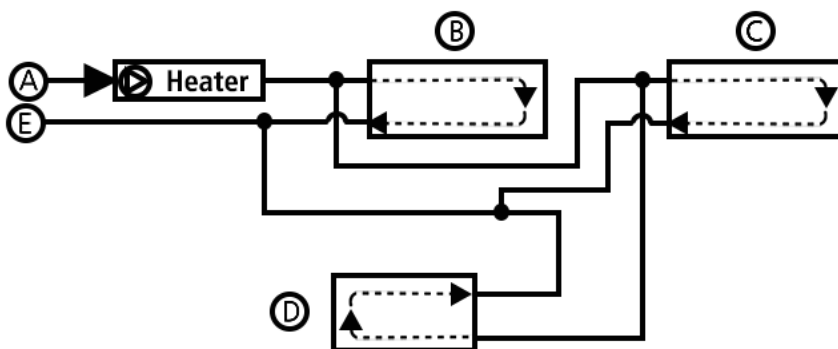

Fig. 401: Parallel Plumbing Circuit (Shown with heater installed)
A: Heat exchangers arranged in Parallel - Recommended (fig. 401)
1. Identify the type of system you are working with to determine the appropriate type of installation as shown in figures 401, 402 or 403.
2. Connect heater into the system according to the examples shown in figures 401, 402 or 403.